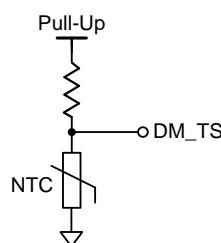

Figure 10. TS Function Connection
The device integrates a temperature sensing (TS) function to diagnose the external temperature using an NTC thermistor. The voltage on the NTC thermistor varies with different temperatures. Figure 10 shows the DM_TS pin connection for the TS function. The device diagnoses TS OTP from the DM_TS pin ADC value if DM_TS_CFG(0x005F[6]) is set to 1. If the external sensing voltage is lower than the TS OTP threshold, the device will stop charging and reset CHG_EN bit to disable. The temperature information is derived from the DM_TS pin ADC value. To use this function, enabling DM ADC conversion is necessary.